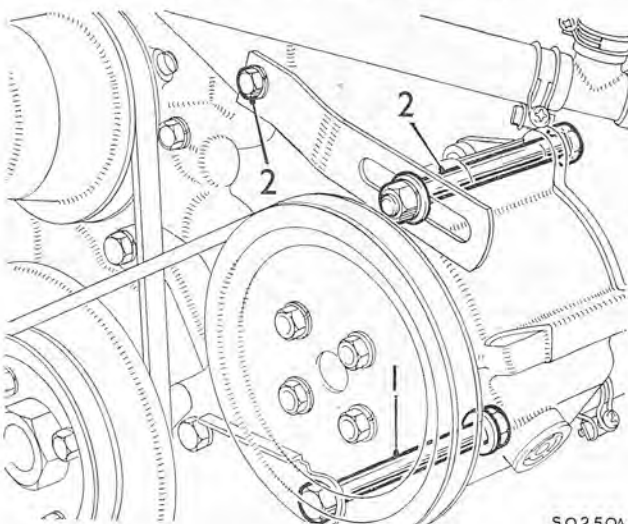

Fig. 6
- (1) Slacken the air pump mounting bolt and adjusting link bolts (see Fig. 6).
- (2) Using hand pressure only, move the pump in the required direction until the correct tension is obtained.